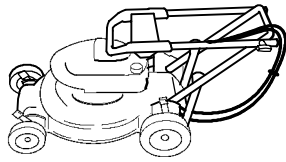

Figure 32
2. Carefully swing the upper handle forward until it rests on the engine (Fig. 32).